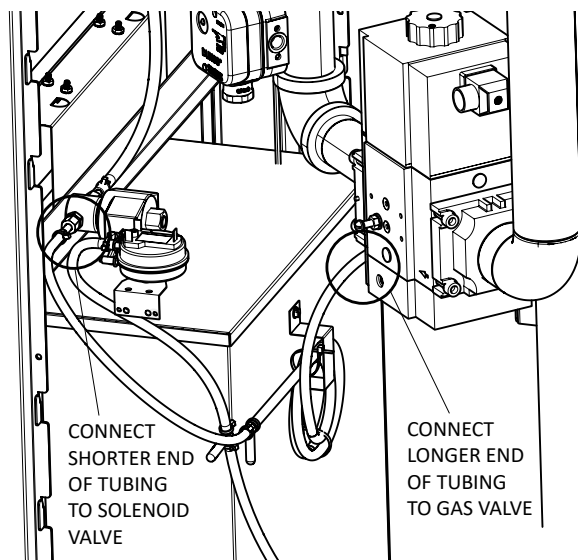

Figure 5. Connect Tubing to Valves
14. Using the 4-feet of tubing supplied in this kit, connect the longer end to the designated port on the gas valve and the shorter end to the left-side port (looking from the rear) of the solenoid valve. Secure all tubing connections using the provided zip-ties, ensuring the tubing is properly seated and free of kinks or stress points. See **Figure 5**.